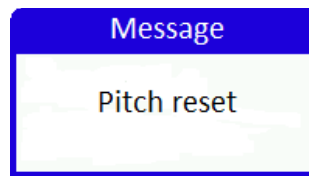

Figure 6: Setting pitch.
- Push and hold *up* button sets current pitch, see Figure 6. It will take current pitch and set it as a zero pitch. The change is not immediate and it takes cca 5 sec for AHRS unit to accept it. Once EMSIS is switch off, this setting is forgotten.
- Push and hold the *up* button sets current pitch, see Figure 6.